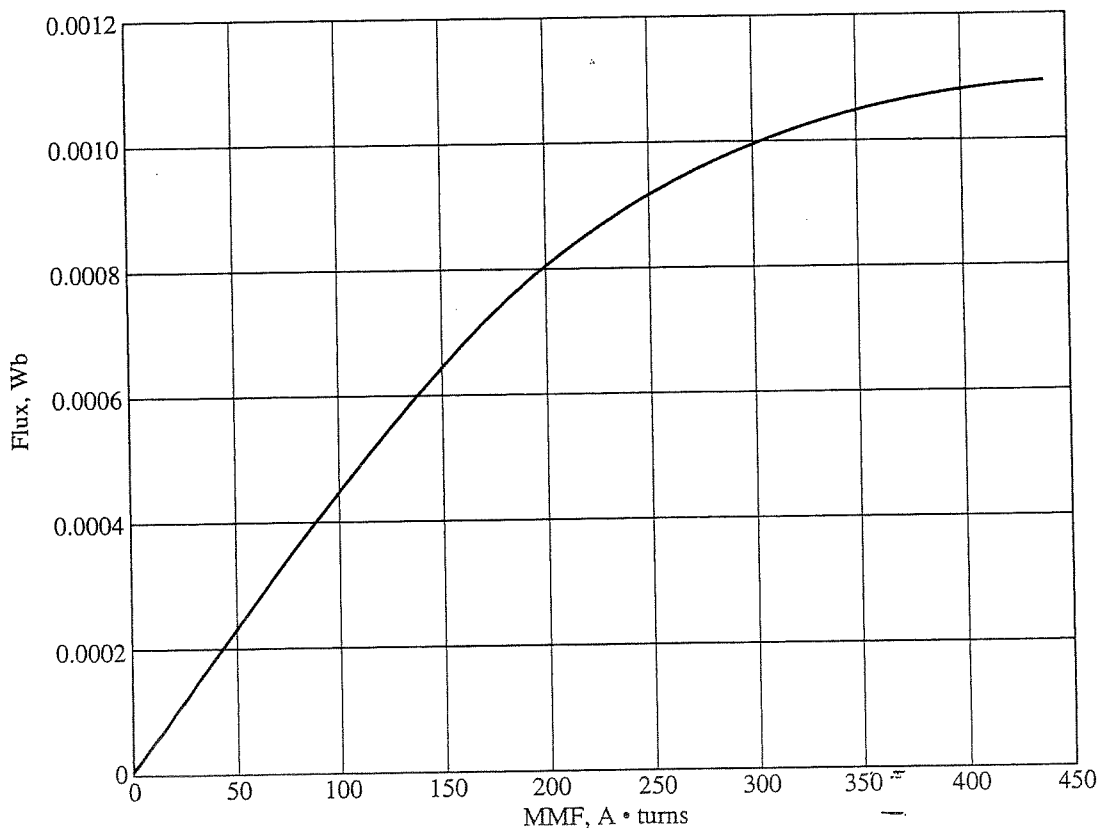

FIGURE P2-2
- 2-5. When travelers from the USA and Canada visit Europe, they encounter a different power distribution system. Wall voltages in North America are 120 V rms at 60 Hz, while typical wall voltages in Europe are 230 V at 50 Hz. Many travelers carry small step-up/step-down transformers so that they can use their appliances in the countries that they are visiting. A typical transformer might be rated at 1 kVA and 115/230 V. It has 500 turns of wire on the 115-V side and 1000 turns of wire on the 230-V side. The magnetization curve for this transformer is shown in Figure P2-2, and can be found in file p22 . mag at this book's website.